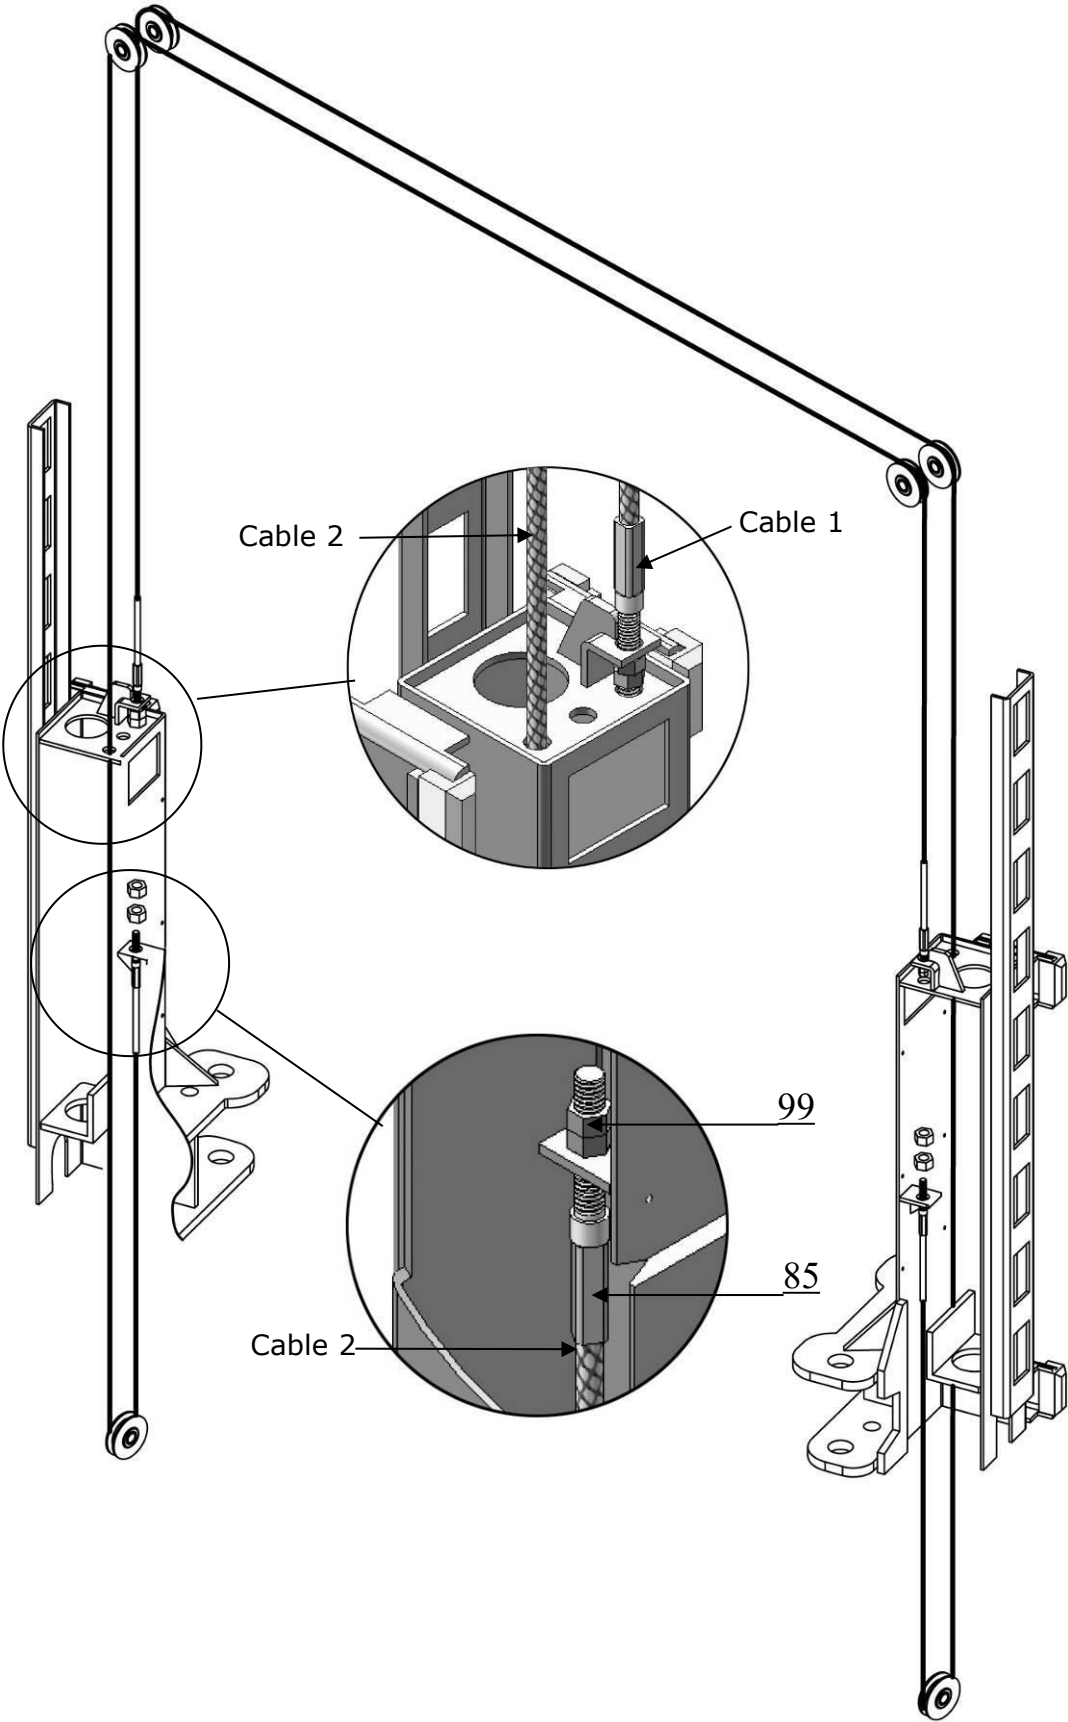

Fig. 29
2.2 Cable connection for high setting (See Fig. 29).